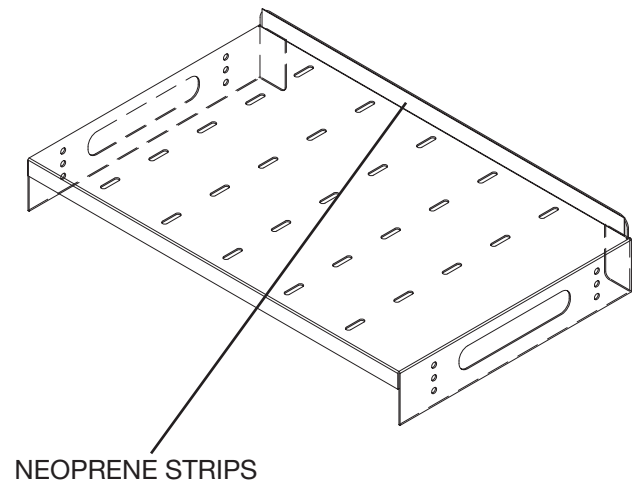

Figure 7.3c - Bottom Shelf
- Bottom Shelf: back lip of shelf, see Figure 7.3c.